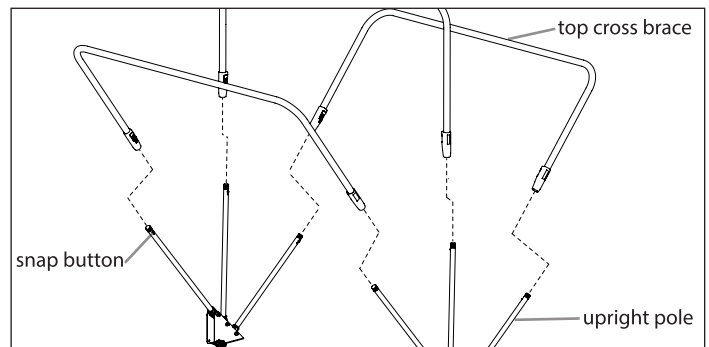

FIGURE 9
14. Insert the 3 upright poles from each hinge (68141/68142) into the (3) Top Cross Braces (68131). Push the snap button inward to allow the Top Cross Brace to slide over the upright hinge poles. Adjust the Top Cross Braces on the hinge to be in the transport position (lowest collapsed height). **SEE FIGURE 9**